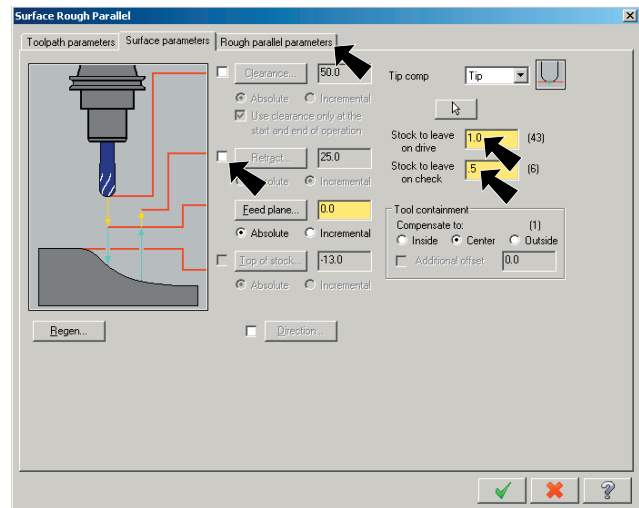

Fig. 75
Step 4. Uncheck **Retract**, **Fig. 75**.
Step 8. Click the **Rough parameters** tab at the top of the dialog box, **Fig. 75**.